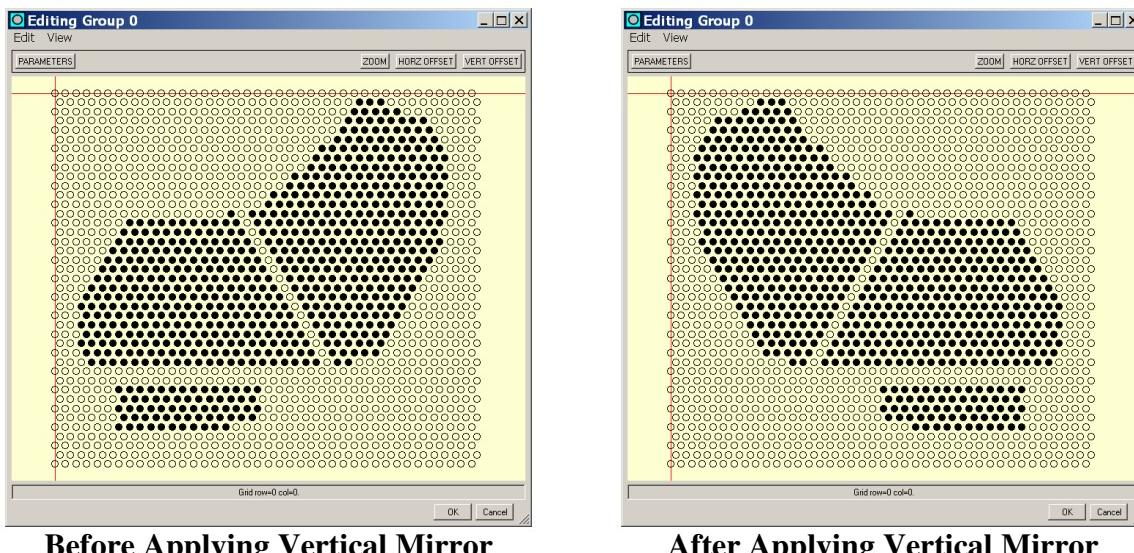

Figure 44. Using the Vertical Mirror Function
- **View | Mirror Vertical: (V)** Selecting **View | Mirror Vertical** flips or *mirrors* the *enabled* tubes on the *building grid* horizontally. Think of holding a mirror vertically next to the building grid. The pattern on the grid in the mirror would appear flipped horizontally. Figure 44 shows an asymmetrical pattern before and after using the **View | Mirror Vertical** function. The origin (*x-y*) of the building grid remains the same as represented by the cross-hair cursors in Figure 44.
- **Popup | Edit Group:** This function allows the user to edit an existing group of tubes. To use this feature, right-click on the group of tubes to be edited, then click **Edit Group** on the **Popup** menu. An **Editing Group** dialog similar to Figure 44 opens with the selected group displayed on a *building grid*. If the incorrect group appears, click **Cancel** on the **Editing Group** dialog and try selecting the correct group for editing again in the main **MakeComp** window; otherwise, make the desired edits and click **OK** for the changes to take effect.